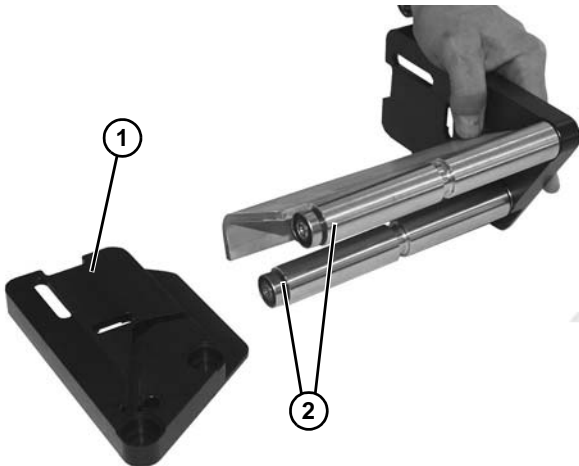

Figure 51
- Slide off end plate (Figure 51, item 1).
- Remove idler roller bearing assemblies (Figure 51, item 2) from each end plate.